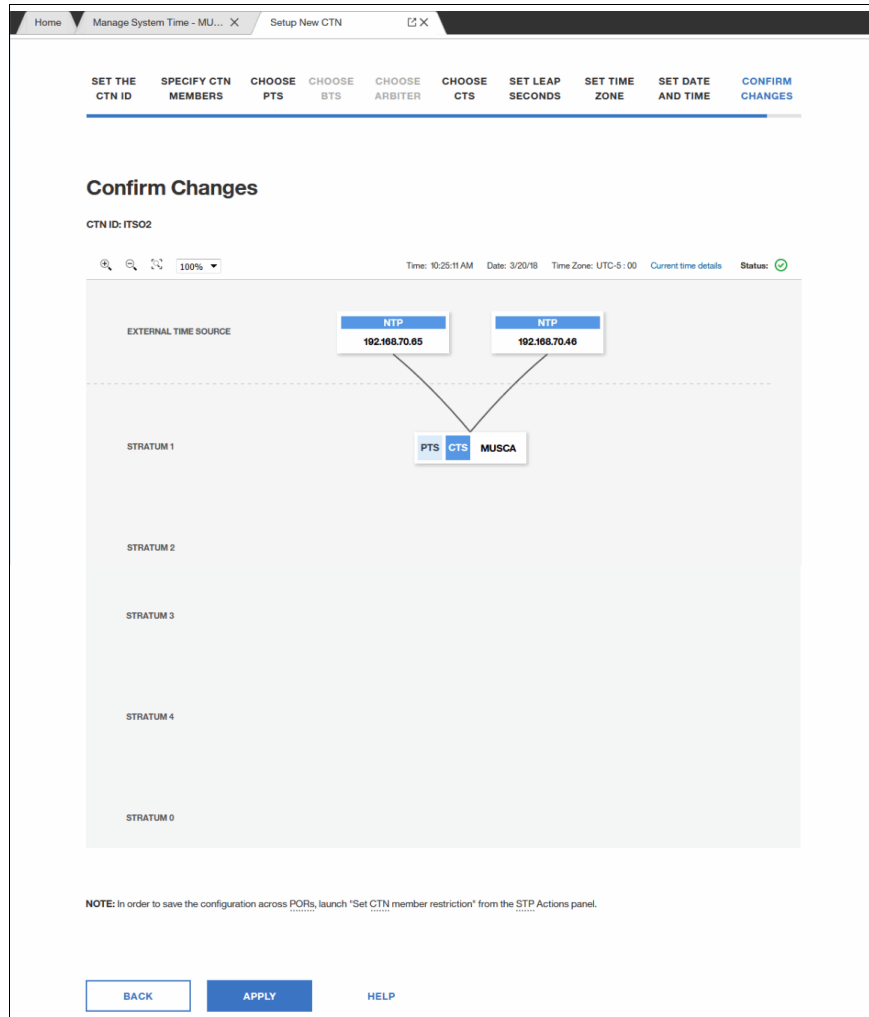

Figure 8-41 Confirm Changes window
10. The Confirm Changes window opens (see Figure 8-41). The topology of CTN you defined is displayed graphically.